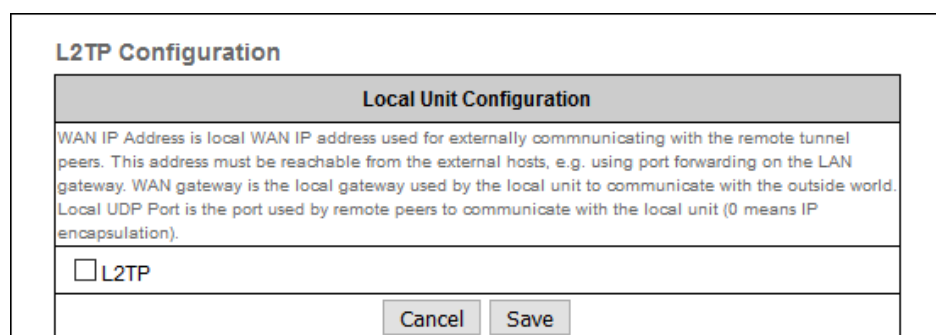

Figure 49. Configurator GUI (L2TP Configuration dialog)
- The **L2TP Configuration** dialog will be shown (Figure 49 \(page 116\)).